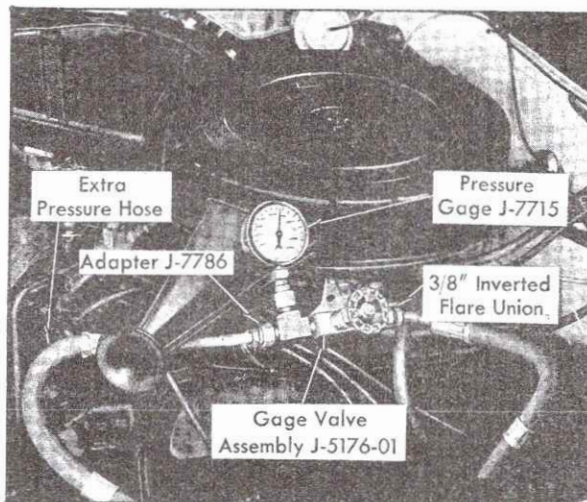

Fig. 9-7 Checking Pump Pressure
2. Connect gear end of an extra pressure hose to adapter, J-7786, on Gage Valve Assembly, J-5176-01, and other end to high pressure fitting on rear of pump, Fig. 9-7.